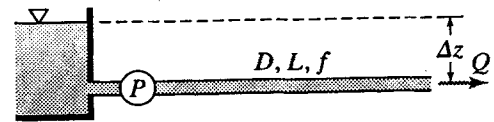

Figure P15.17
15.17 A pump whose characteristics are shown in Fig. 15.8, operating at 1450 rpm, is placed in a 24-in-diameter pipe ($f = 0.032$) of length 5000 ft (Fig. P15.17). The discharge end of the pipe is 30.0 ft lower than the water-surface elevation in the reservoir. The water discharges freely into the atmosphere.